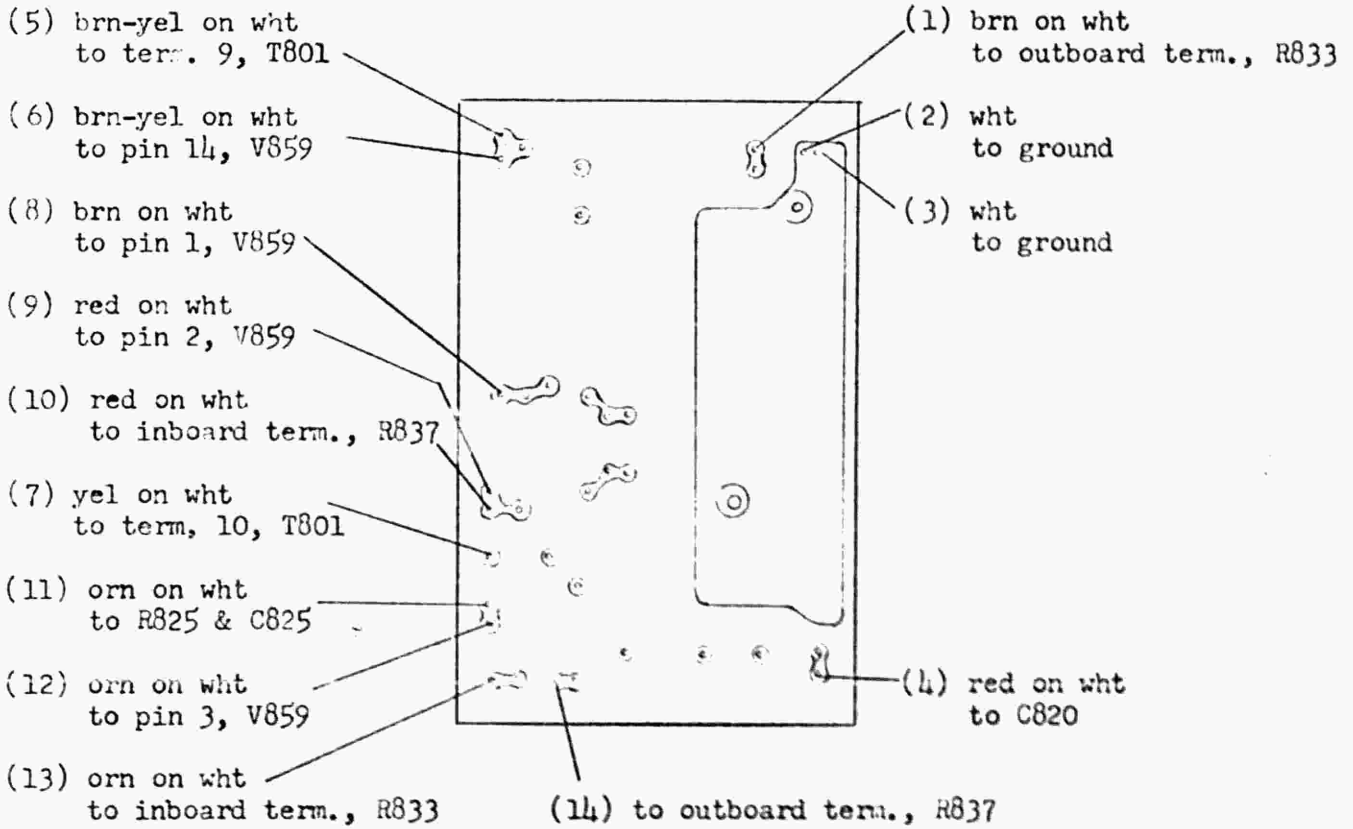
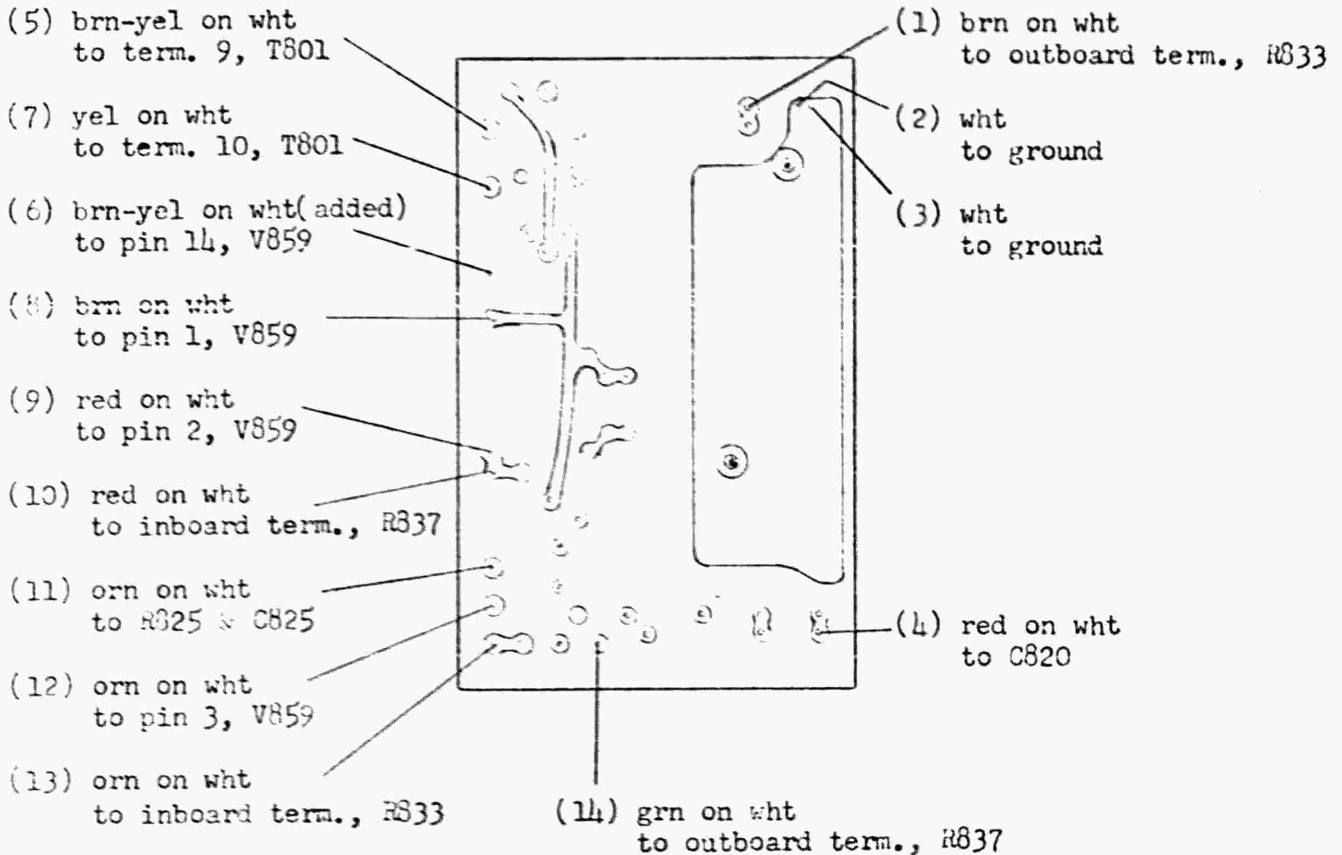

FIG. 1 OLD ASSEMBLY, PN 670-0411-00
FIG. 2 NEW ASSEMBLY, PN 670-0411-01
- ( ) 7. Locate the brown-yellow on white wire (wire 6, Fig. 1) that is connected between the HV assembly and pin 14 of the CRT. (There are two brown-yellow on white wires, so use an ohmmeter to determine the proper wire.) Unsolder this wire from pin 14 of the CRT socket, loosen the cable harness clamp, and pull the wire out of the cable harness.
- ( ) 8. Solder the brown on white (1), white (2), white (3), red on white (4) and brown-yellow on white (5) wires to the new board, as shown in Fig. 2. See Fig. 1 for previous connections of wires to the old board.
- ( ) 9. Locate the yellow on white wire (7), pull it back through the cable harness, trim it to length, and solder it to the terminal shown in Fig. 2.
- ( ) 10. Locate the heavy insulated orange on white wire (11 or 12) that connects to R825 (560k 2W) on the High Voltage Rectifier/Multiplier board, and solder this wire to the location indicated for wire (11) in Fig. 2.
- ( ) 11. Solder the brown on white (8), the red on white (9), the red on white (10), the orange on white (12), the orange on white (13), and the green on white (14) to the new assembly as shown in Fig. 2.
- ( ) 12. Dress the brown-yellow on white wire (6) from the new assembly), along the cable harness, through the cable clamp and solder it to pin 14 of the CRT.